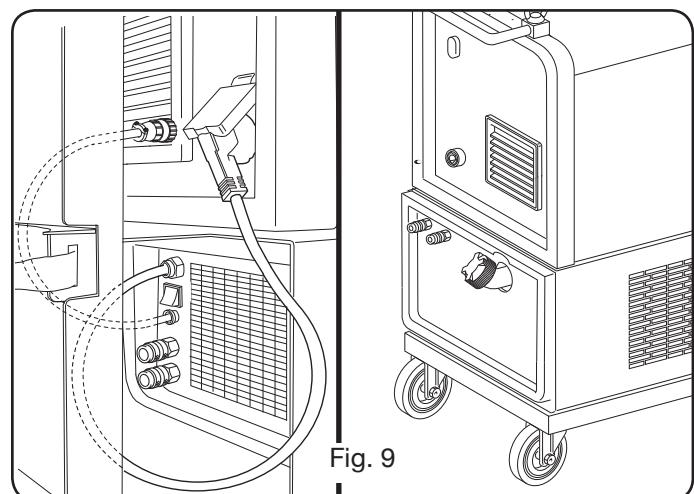

Fig. 9
3.5 MONTERING AF AFKØLINGSGRUPPE (ART. 1683 DER LEVERES VED ANMODNING ART. 318-319) (Fig.9)